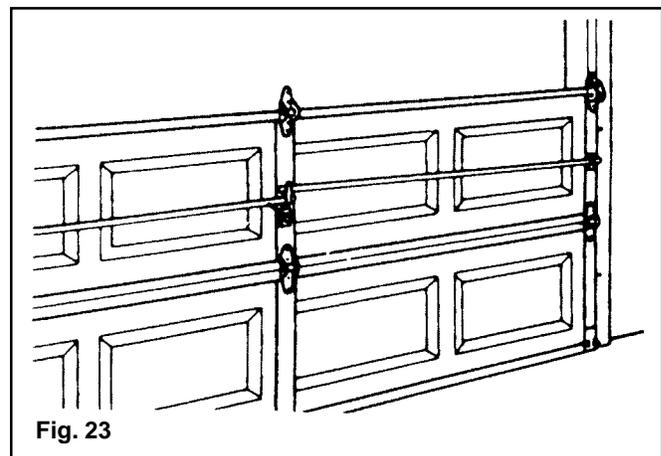

Fig. 23
**Step 8:** Place the second section on top of the first section. Drive a 3" nail in the jambs at each end and bend it over the edges of the section to hold the section in place. Attach the hinges from the top of the first section to the bottom of the second. (FIG. 23)